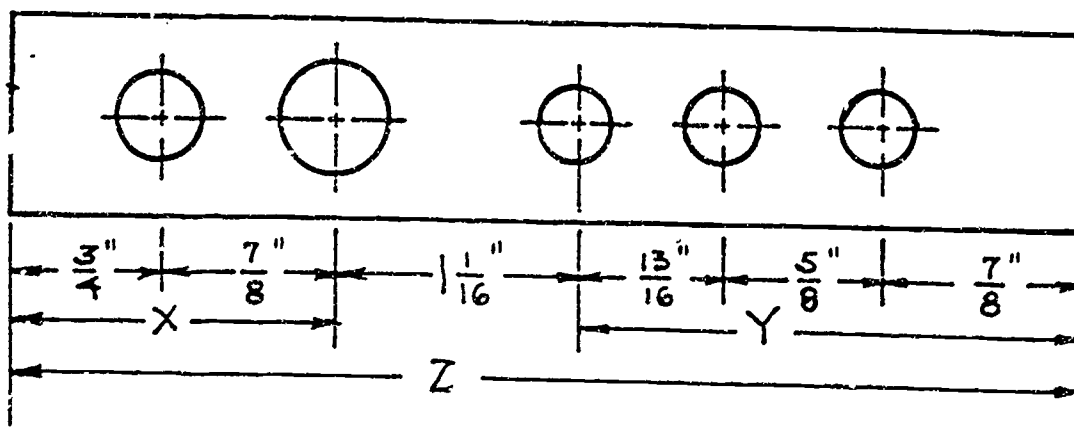

Figure 5: Solve for x , y and z .
3. Your boss gives you the sketch in Figure 5. You are to find the lengths of x , y and z .